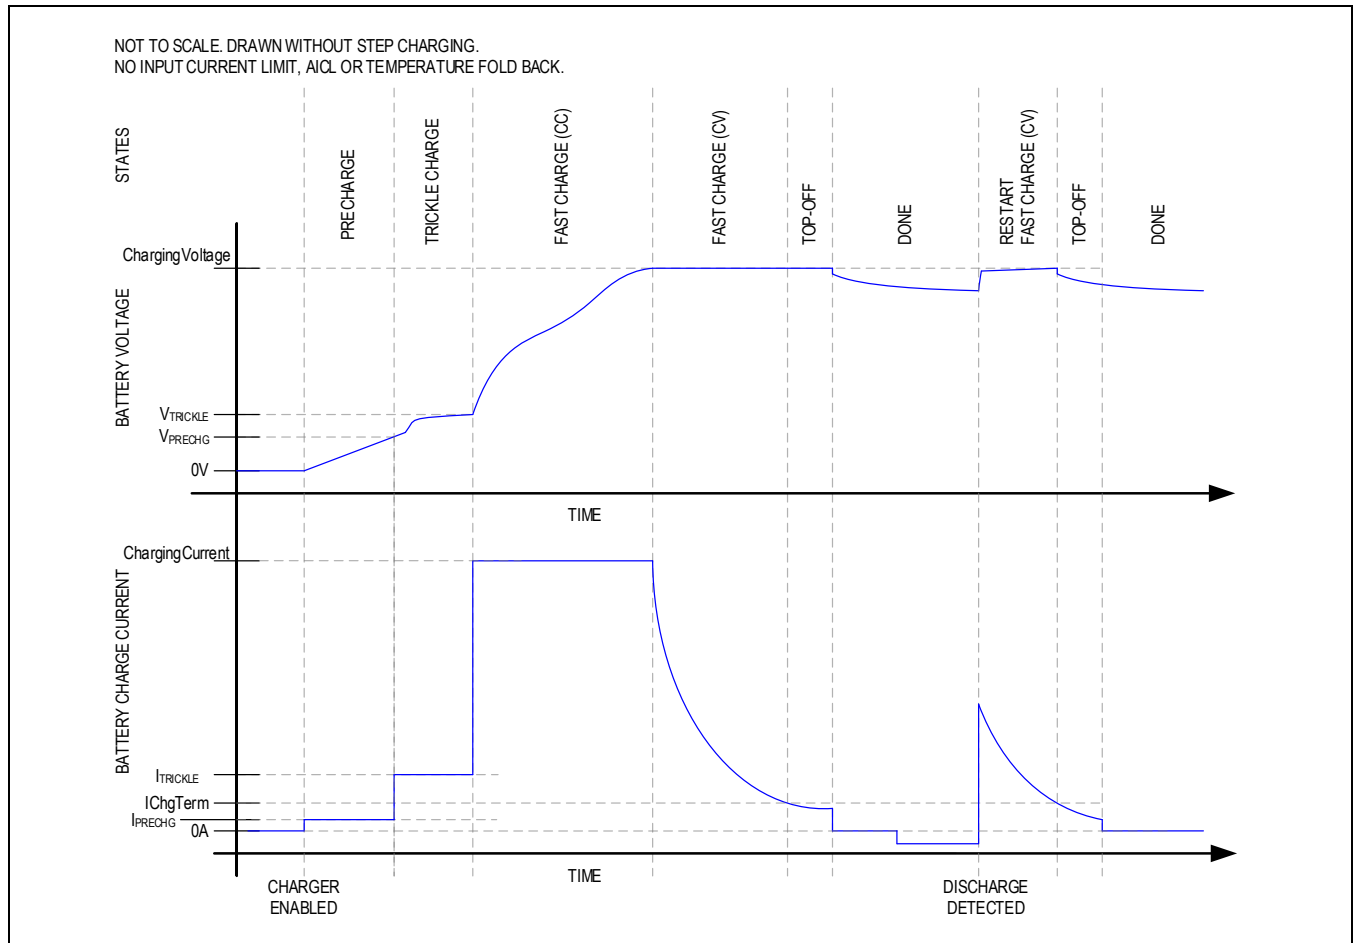

Figure 1. Li+/Li-Poly Charge Profile
Lithium-ion/polymer batteries are very common in various portable electronic devices because they have a very high energy density, minimal memory effect, and low self-discharge. However, care must be taken to avoid overheating or overcharging these batteries to prevent damage, potentially resulting in dangerous outcomes/explosive results. By operating in safe temperature ranges, at safe voltages and under safe current levels, the overall safety of the lithium-ion/polymer batteries can be assured throughout the life of the battery. Using AccuCharge technology, the MAX77972 controls the charging voltage and current dynamically based on the JEITA charge profile, step-charging and battery temperature. The charge current is reduced at low battery voltage (prequel), low and high temperature, or when the battery voltage reaches the battery regulation voltage. Figure 1 shows an example of the charge profile without step charging and JEITA profile changing the target charge current and charge voltage. Real time target charging current and charging voltage are available at ChargingVoltage and ChargingCurrent registers, automatically modulated by temperature and step-charging. See nIChgCfg1/2, nVChgCfg1/2, nStepVolt, nStepCurr, and nTPrtTh1, nTPrtTh2 for configuration details in Fast Charge - Step Charging and FAST CHARGE - JEITA sections.
FAST CHARGE/STEP CHARGING: The battery is charged to this terminal voltage in Fast Charge stage. Charging profile shown in Figure 1 has disabled step charging for simplicity. See Step Charging section for detailed configurations.
- The charging profile shown in Figure 1 has step charging disabled for simplicity. See Step Charging section for detailed configurations.